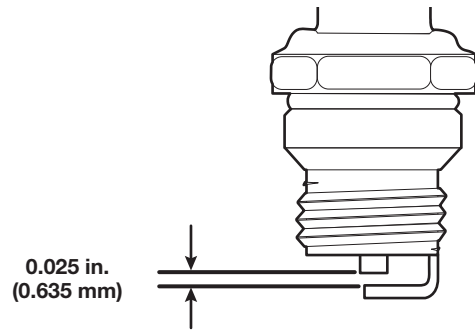

Fig. 14
4. Use a feeler gauge to set the air gap at **0.025 in. (0.635 mm)** (Fig. 14).